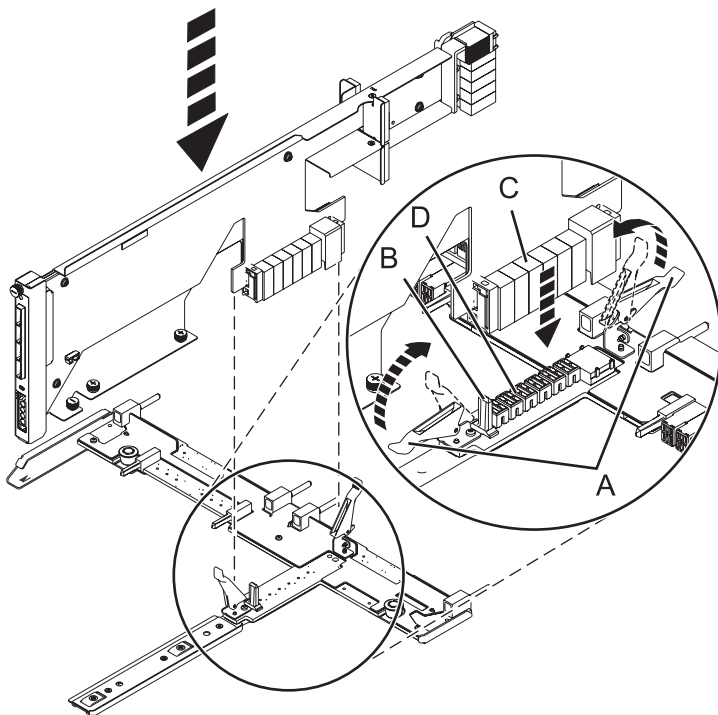

Figure 44. Installing the SAS conduit card into the midplane
- b. Lift the handle (**A**) to seat and secure the SAS conduit card to the midplane as shown in Figure 44.